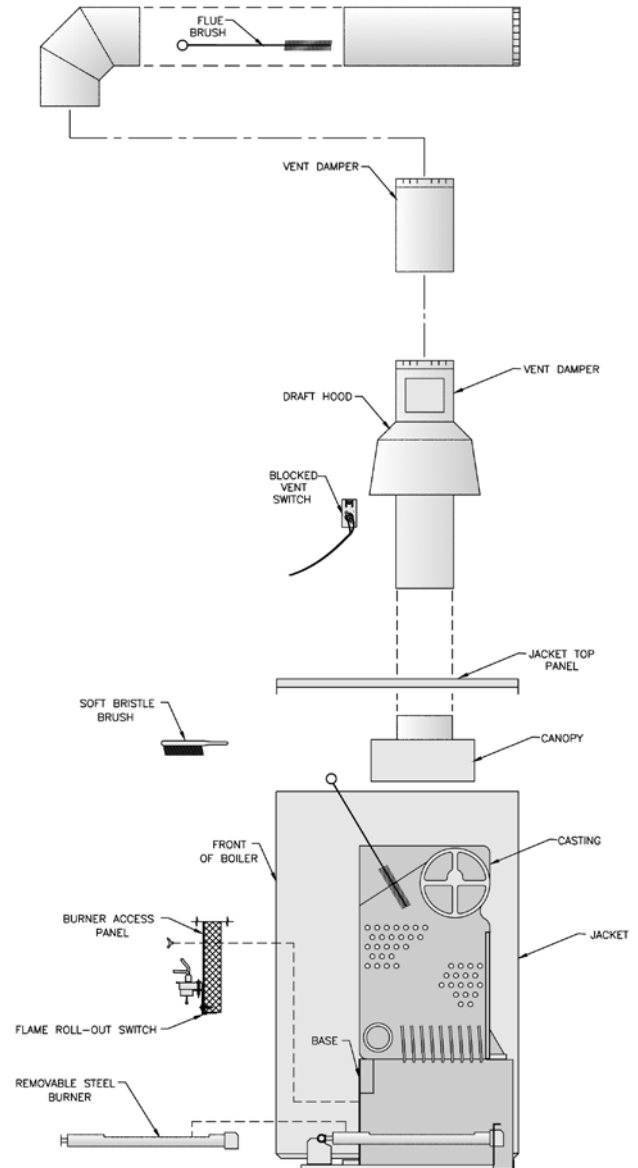

Figure 20: Flueway Cleaning
2. Brush top of burners with a soft bristle brush. See Figure 20. Vacuum burners.